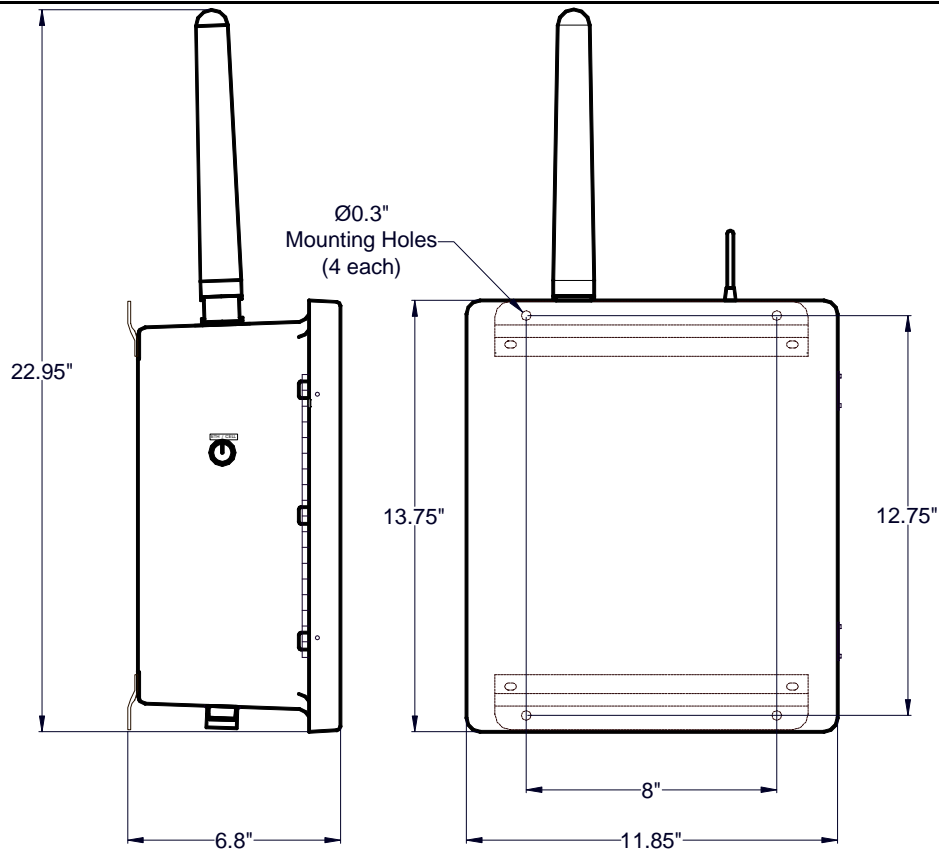

Figure 4 SW SiteWatch Dimensional
1. Mount the Smart Wireless SiteWatch securely on a smooth surface according to the diagram in Figure 4. Ensure to leave enough overhead room for the antenna’s, and ensure that there is nothing that can impede the unit from clear transmission or reception.